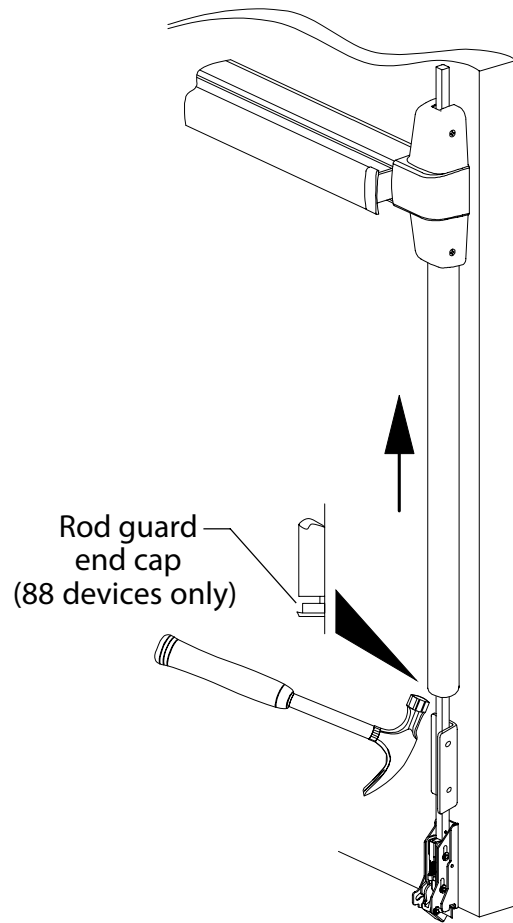

Figure 11
- 14 Hold rod guard in place and tap lightly with a hammer until rod guard touches center case cover (Figure 11). Install rod guard end cap for 88 devices only.